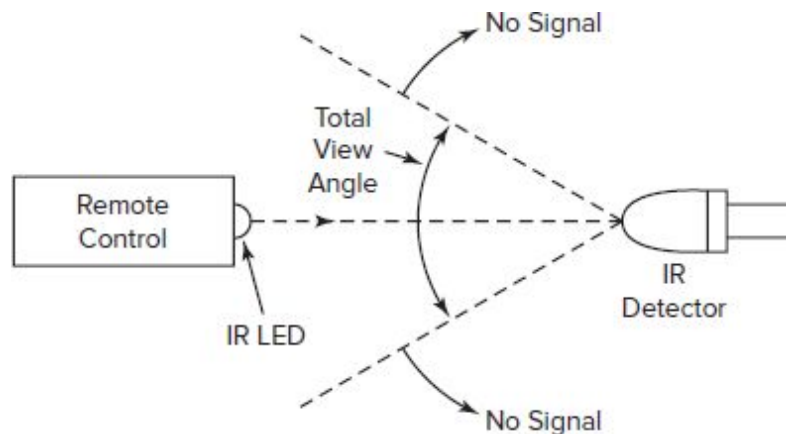

Fig. 20-4 View angle of the IR diode.
9. While pointing the remote directly at the IR diode with about 5 ft separating the two, begin moving horizontally to the left in a circular arc while still keeping the diode in the same plane. See Fig. 20-4. At some point, the signal will disappear. At this point, estimate the angle between the centerline and the line where the signal dropped out. Repeat this procedure to the right. What is the approximate total view angle of the IR diode?